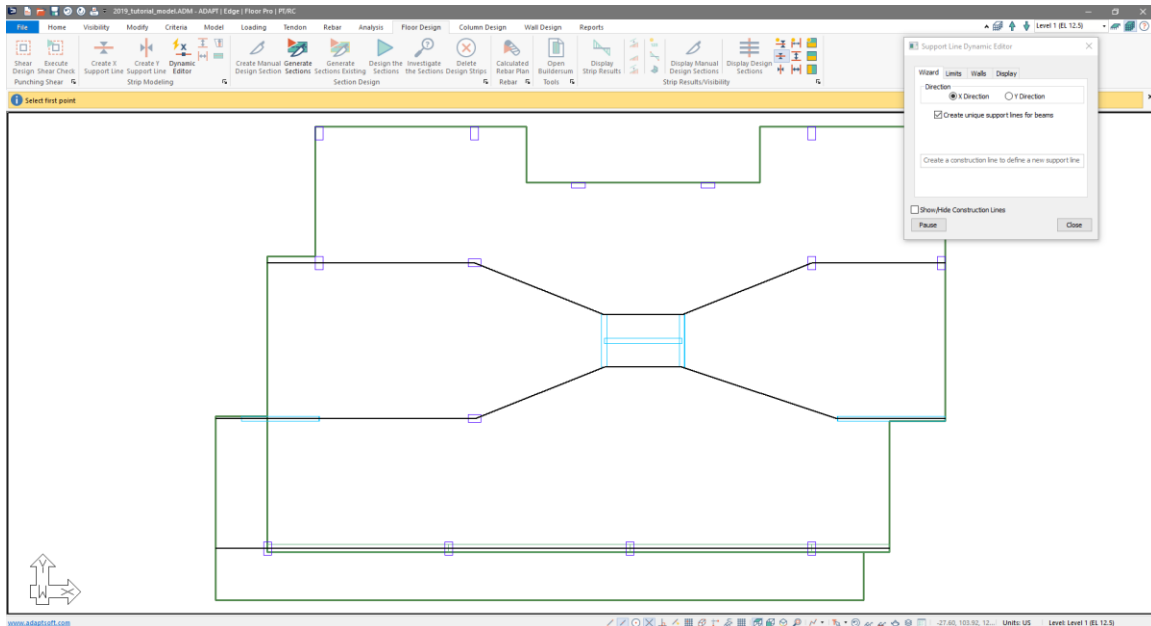

Figure 9-12
- Enter the third support line in the same fashion. Once it is entered the users screen should appear similar to the screen shown in **FIGURE 9-12**.